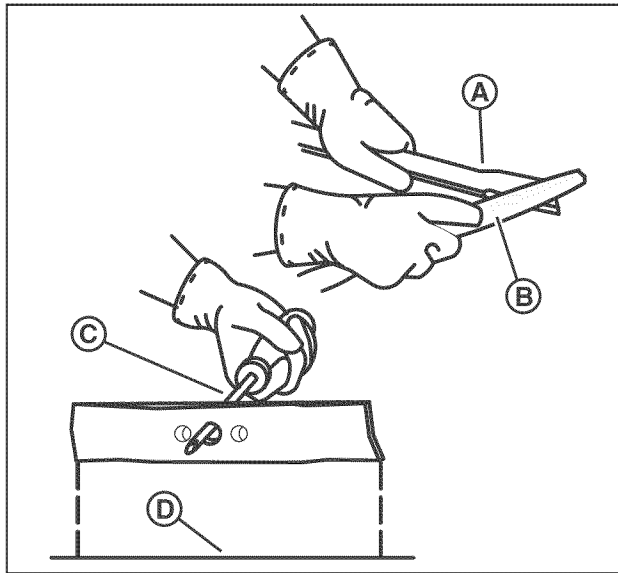

Figure 19: Sharpening the blade
4. Sharpen the blade (A, Figure 19, next page) with a file (B). Make sure you keep the original beveled cutting edge.
5. Make sure the blade is balanced. Use a screwdriver (C) and hold the blade parallel to the ground (D) as shown. A blade that is balanced will stay parallel to the ground. If the blade is not balanced, the heavy end will rotate toward the ground. Sharpen the heavy end until the blade is balanced.